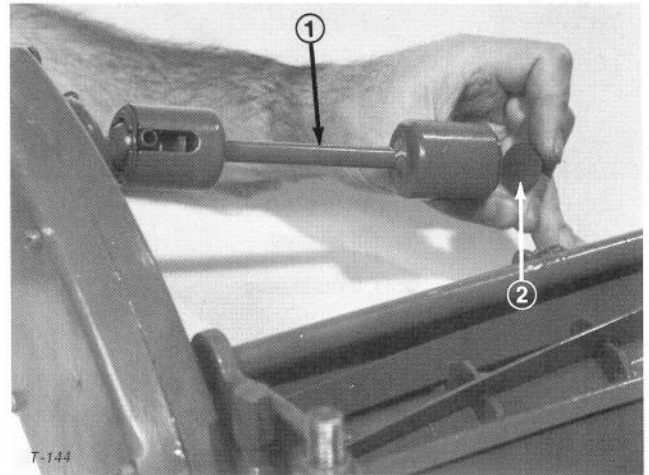

Figure 29
1. Slide the cutting unit under the yoke from the right side, line the drive shaft up with the transmission shaft and install drive shaft. Be sure pad is installed into drive shaft (Fig. 29).